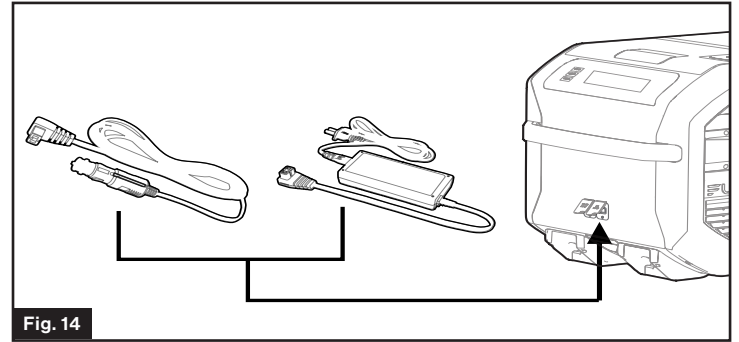

Fig. 14
2. Insert the plug of the appropriate adapter into the DC input socket for power supply. (Fig. 14)